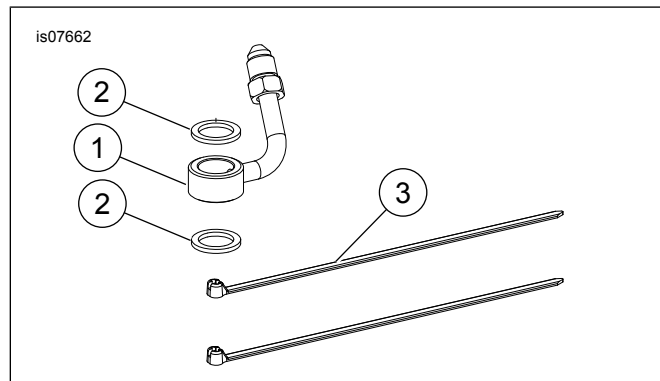

Figure 3. Service Parts: Brake Line Adapter
See Figure 3 and Table 1.
2. See Figure 3. Install the brake line adapter (1) and sealing washers (2) into the front circuit manifold.